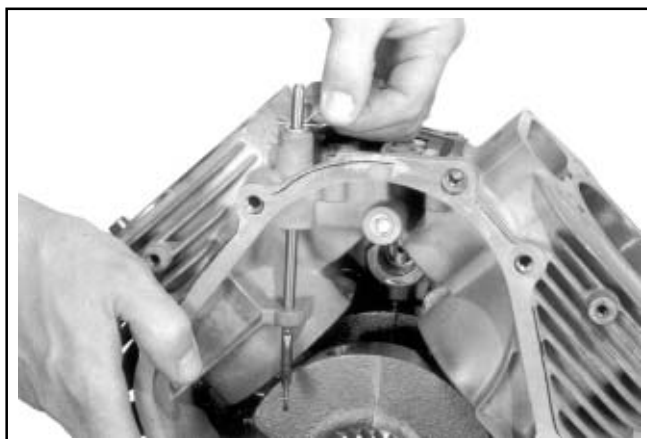

Figure 9-69. Removing Governor Cross Shaft Hitch Pin (6 mm Shaft Design).
1. Remove the hitch pin and plain washer, or the retainer and nylon washer, from the governor cross shaft. See Figures 9-69 and 9-70.